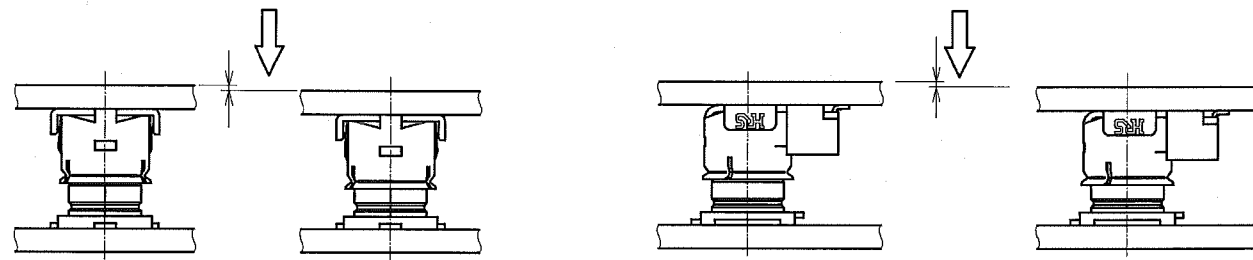

FIG. 2
2) CONFIRM THE ALIGNMENT BY APPLYING SLIGHT EVEN PRESSURE TO THE MOUNT PLUG (U.FL-PR-SMT2.5-1) PARTIALLY INSERTING IT IN THE MOUNT RECEPTACLE (U.FL-R-SMT-1), AS SHOWN IN FIG. 2. THE PLUG SHOULD NOT MOVE SIDEWAYS OR BE SLANTED.